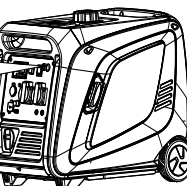

FIG.20
4. Pull the starter handle slowly until resistance is felt. This is the "Compression" point. Return the handle to its original position and pull swiftly. Do not fully pull out the rope. After starting, allow the starter handle to return to its original position while still holding the handle. Grasp the carrying handle firmly to prevent the generator from falling over when pulling the recoil starter. **FIG.20**